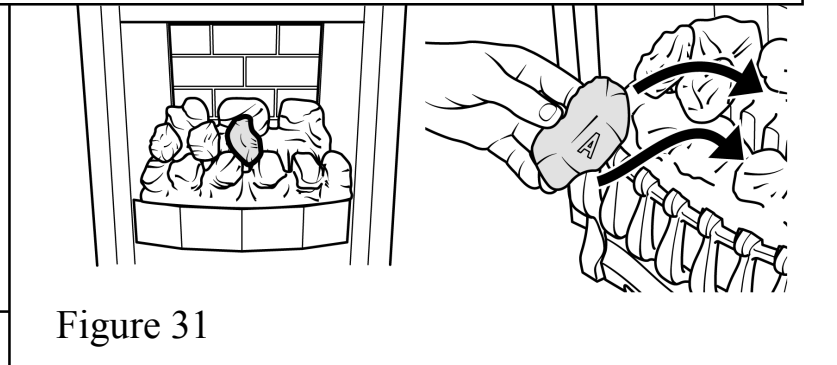

Figure 31
7. Place a type "A" coal between the front and rear base coals with the letter "A" upright. The top of the coal should rest against the centre coal of the rear base coal as shown in figure 31.